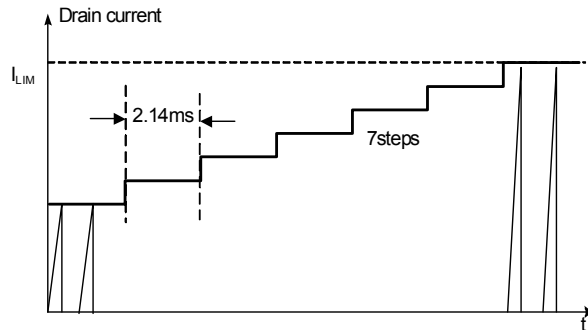

Figure 19. Internal Soft-Start
5. Soft-Start: The FPS has an internal soft-start circuit that slowly increases the feedback voltage, together with the SenseFET current, right after it starts up. The typical soft-start time is 15ms, as shown in Figure 19, where progressive increment of the SenseFET current is allowed during the start-up phase. Soft-start circuit progressively increases current limits to establish proper working conditions for transformers, inductors, capacitors, and switching device. It also helps prevent transformer saturation and reduces the stress on the secondary diode.